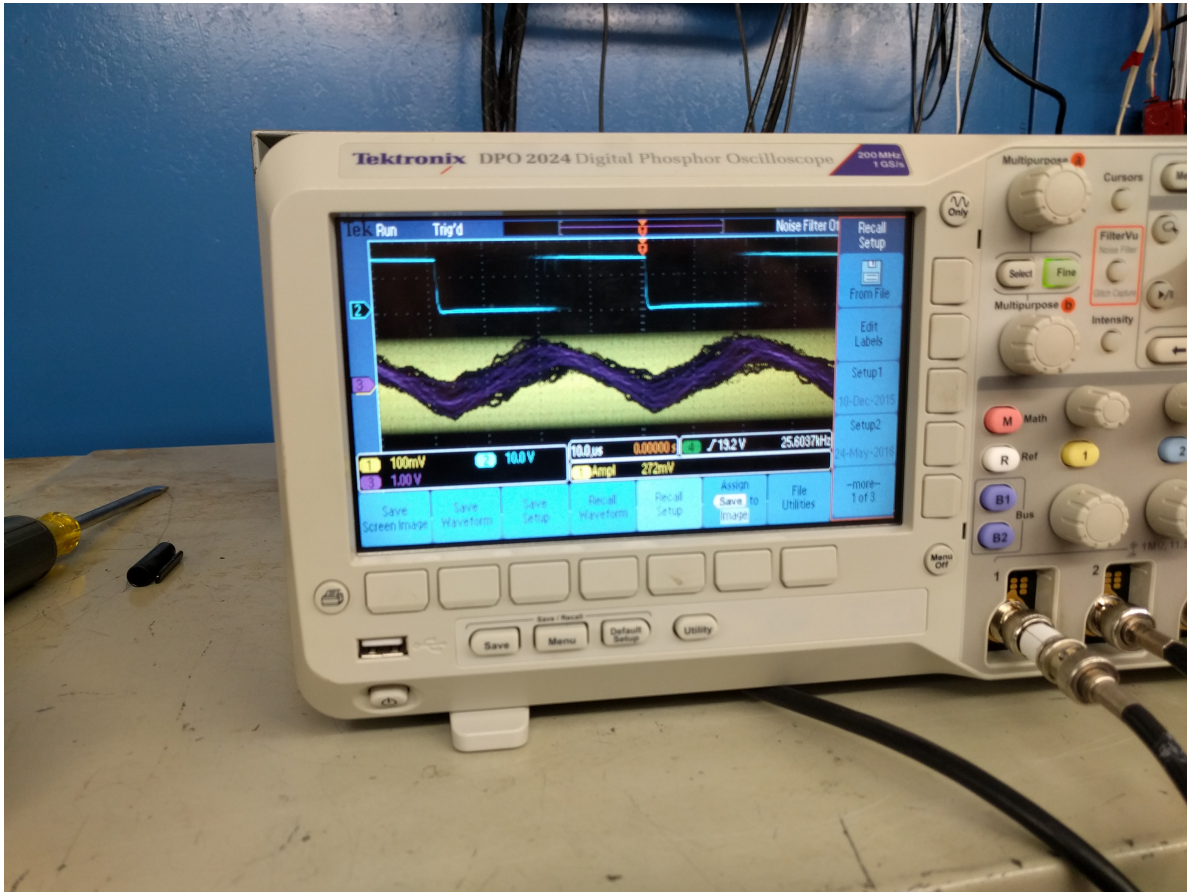

Figure 19: Scope Lock Status for Resonators
Use the Tektronics 2445A dedicated Linac scope and select the recall 3 program option. The scope should be set up as follows figure 18 A and B. The time base should be set to 20 μ sec. CH.1 is connected to the can mon. (100mV/div./50 Ω) CH.2 is connected to the P.D.P. mon. (500mV/div./1M) CH.3 is connected to the phase error (0.1V/div.) CH.4 is connected to the P.W. clockout (0.1V/div.) trigger the scope on CH.4. For a normally operating resonator the trace illustrated in figure 19 should be observed. After setting up the scope check the following:
- If the P.D.P. monitor signal shows no resemblance to a square wave (figure 19) (even a 'smeared' out one), i.e. the trace is a line at 0V or near 1V, the P.D.P. is not switching. See 1.
- If the P.D.P. is switching, but smeared out, and the phase error signal (figure 19) is smeared out, or is jumping over most of the screen, the resonator is totally out of phase lock -i.e. the resonator frequency does not match the master oscillator frequency, see c.
- If the phase error signal and the P.D.P. monitor signal (figure 19) are recognizable as a sawtooth and square wave respectively, but are asymmetric and jittering, the fast tuner system (P.D.P.-VCX) is not operating about the center of the range. If this is the case the slow tuner driver center frequency pot (figure 18 C) has to be adjusted. See (d) below.